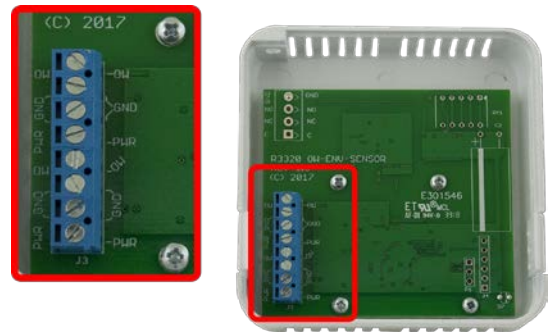

Fig 1. Screw-down terminals
- b. Securely attach 1-Wire Data, Ground (power and data) and Power to the corresponding screw-down terminals (see Fig 1.) on the 8 channel terminal block. If power is being derived from pin 6 on the OW-SERVER or HA7Net only the Data ground will be needed.